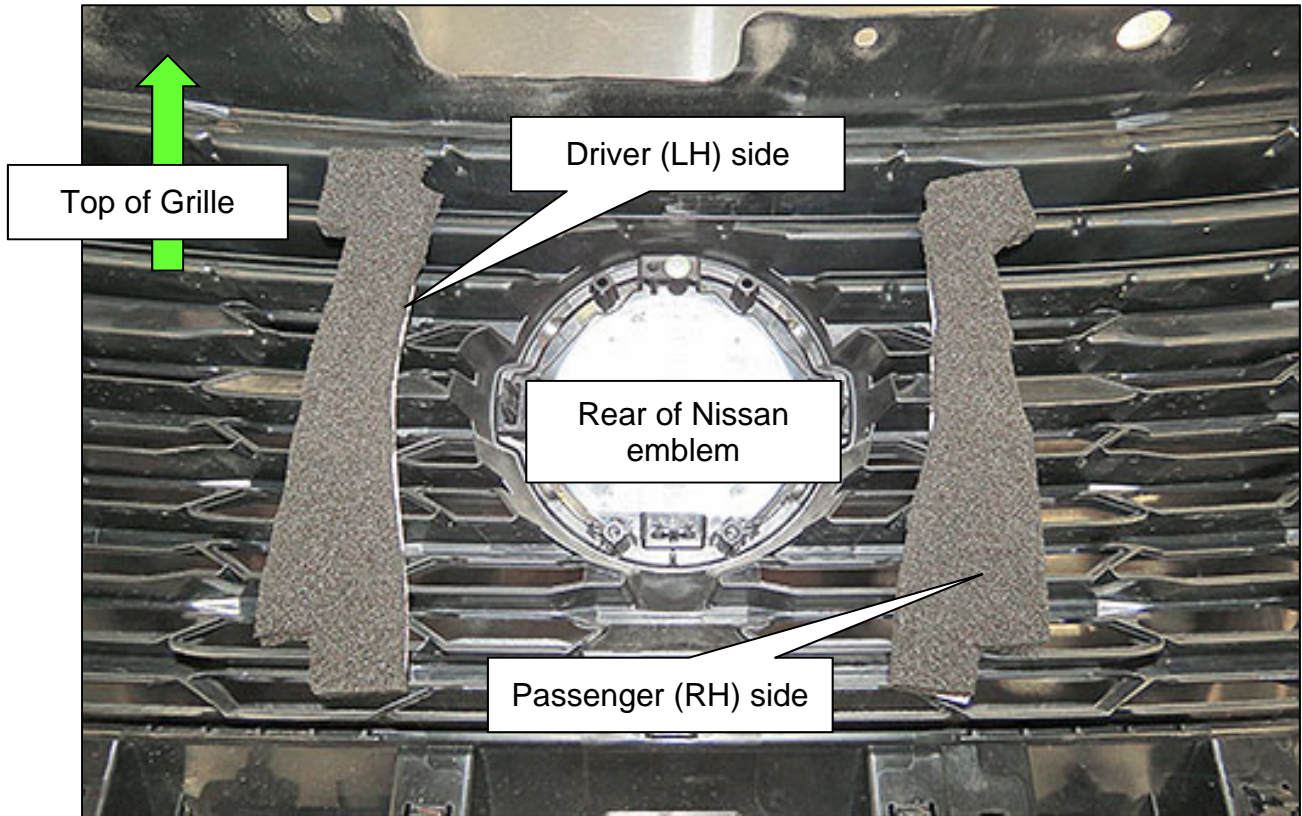
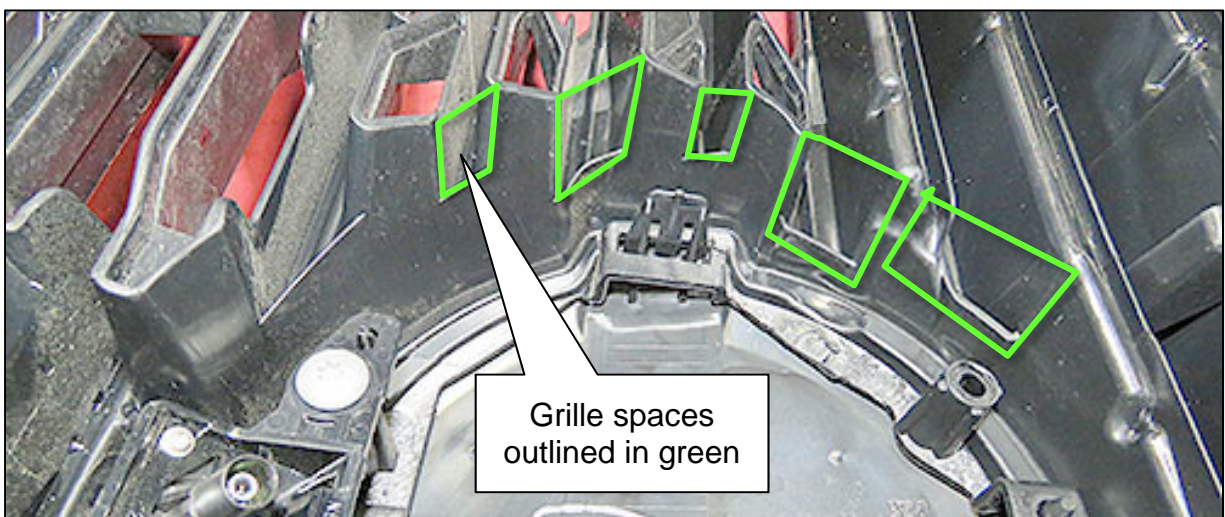

Figure 2
Figure 3
Refer to steps 4-7 to attach two (2) Foam Seals (Figure 2) to the inside of the Nissan emblem, on the Grille, to close the Grille spaces (Figure 3).
HINT: The Foam Seals are left and right, and are shown in Figure 2 on the sides and orientation that they will be installed.